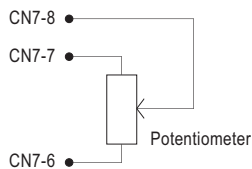

Figure 1
- (1)When the function is not required, please have pin CN7-8 (refer to Mechanism of Output Modules) open, and the output voltage will present the nominal voltage.
- (2)Connecting pin CN7-8 with CN7-6 (or CN7-7) will tune the output voltage up (if CN7-7, down) by 5% of the nominal voltage.
- (3)Applying an additional 100K Ω potentiometer across CN7-6 and CN7-7 (referring to Figure 1) will enable the adjustment in between -5% and +5% (EX: -3%, +2.5%, and etc.)